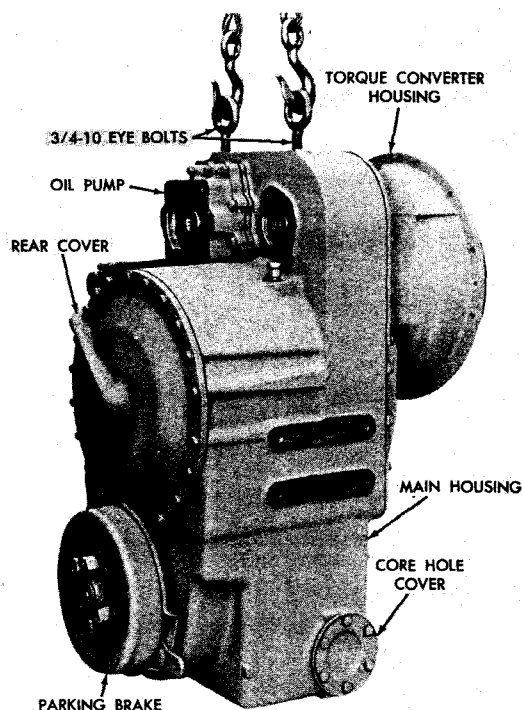

Fig. V-1. Lifting transmission
(1) Install the eyebolts in holes provided, attach hoist hooks and set the transmission on a table in the vertical position (fig. V-1).
(4) Remove six bolts and lock washers from the core hole cover and remove cover and gasket (fig. V-1).